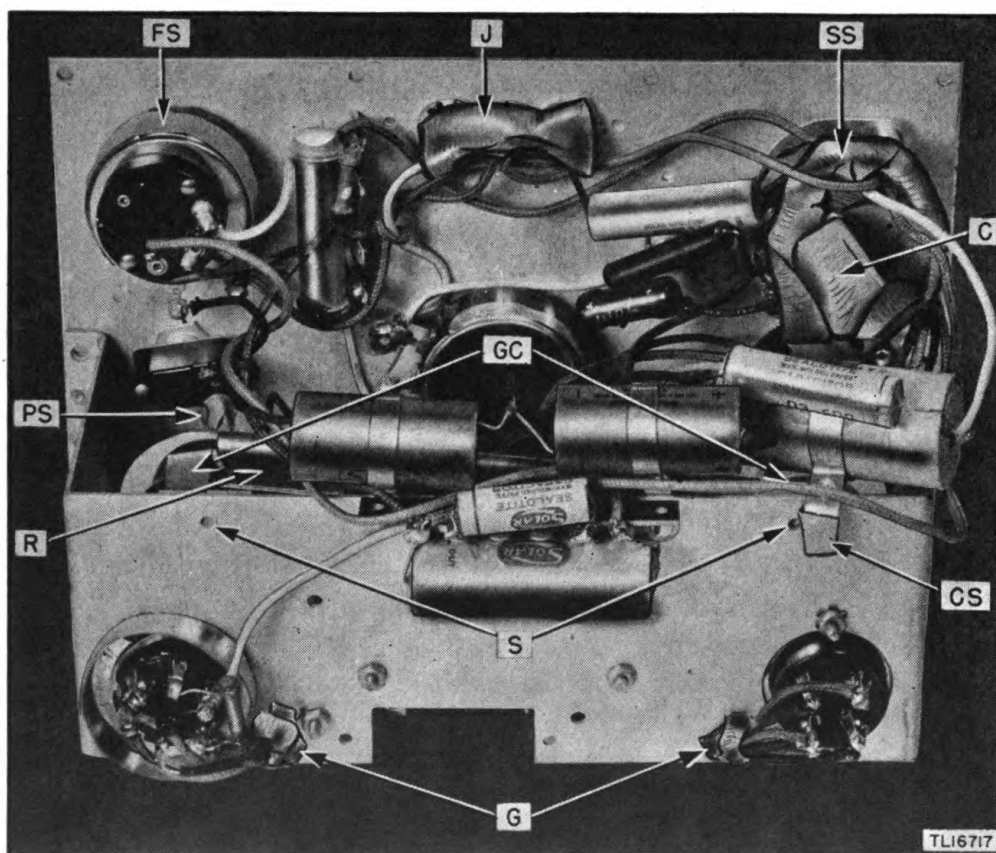

Figure 10. Rear of set, masked for moistureproofing and fungiproofing
Remove the two bolts (S, fig. 10) which fasten the voltage divider (R, fig. 10) to the chassis. Pull the voltage divider as far away from the chassis as the wiring will permit.
Remove rubber A.C. input cable by unsoldering the wire from the lug on the power switch (PS, fig. 10) and the wire from the connection at the transformer.
- Three test lead jacks (J, fig. 10).
- Capacitance selector switch (SS, fig. 10).
- Trimmer capacitor located on selector switch (C, fig. 10).
Lug on the power switch (PS, fig. 10), and connection at the transformer where the A.C. power cable has been removed.
Ground connection (GC, fig. 10) on each end of the voltage divider.
Two rubber grommets (G, fig. 10).
Back of the power factor selector (FS, fig. 10) located in the upper left-hand corner.
Mask the capacitor support (CS, fig. 10). This is to insure proper contact between chassis, capacitor ground, and voltage divider through the screw.